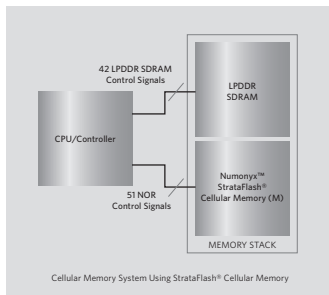

Figure 2: Cellular memory system NOR flash configuration
An additional benefit of using Numonyx Velocity LP, rather than a traditional NOR flash, is that a dedicated NOR flash bus can be eliminated. Figure 2 illustrates a generic cellular phone memory system which uses a Numonyx™ StrataFlash® Cellular Memory (M) NOR device for application code storage.